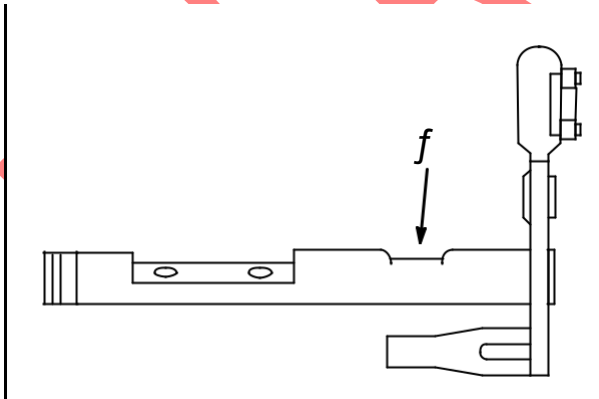

Fig. 59
Inspect throttle shaft and choke shaft for wear (3). Replace if worn, Fig. 59.